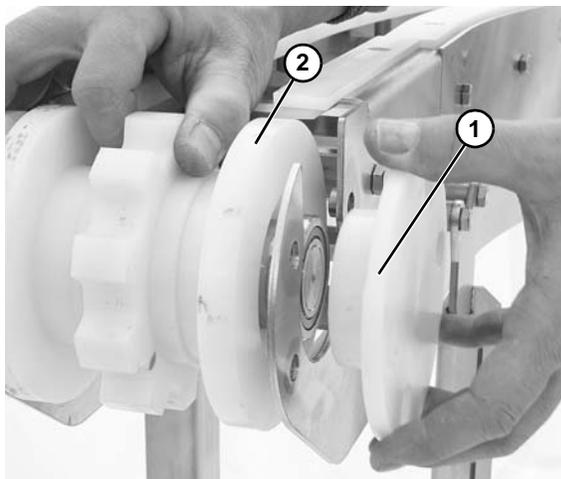

Figure 55
9. Remove bearing housing (Figure 55, item 1) and lift spindle shaft assembly from tail.